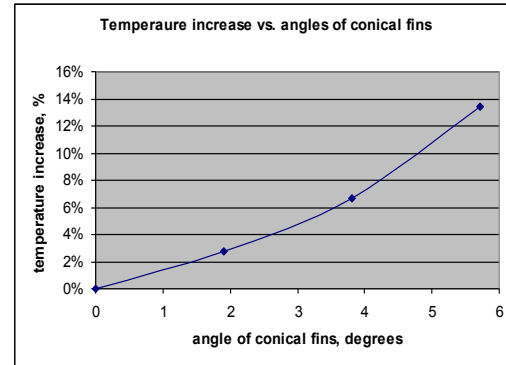

Fig.6 Temperature increase VS Angles of conical fins
- The fins are better designed to rectangular, rather than conical (See Fig.6)